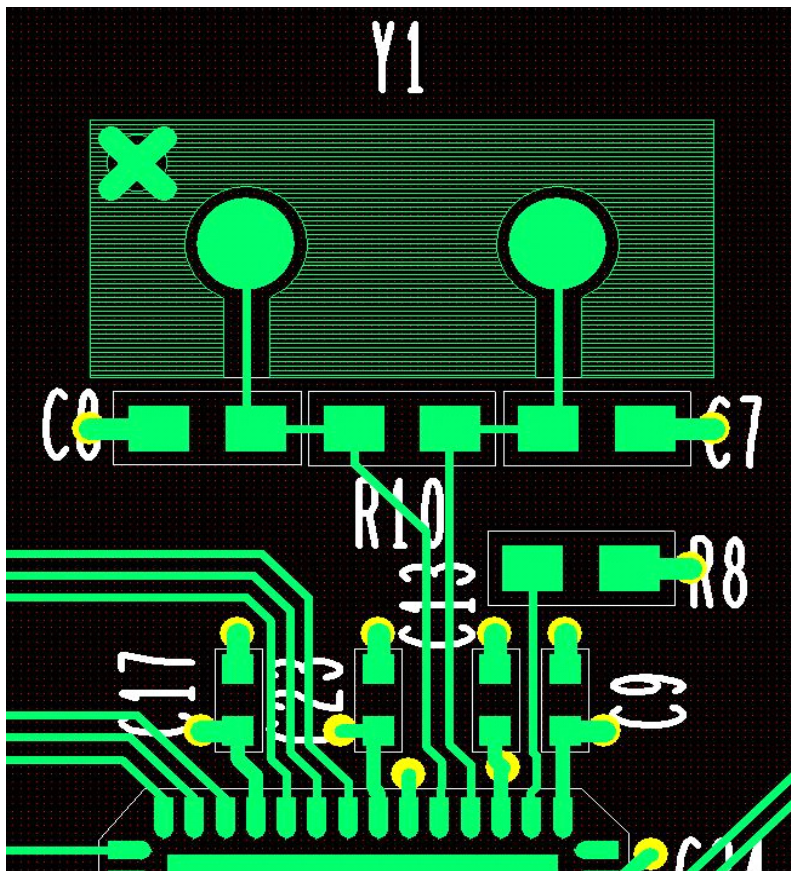

Figure 2.2 Crystal Oscillator Component Layout
Figure 2.2 illustrates a suggested PCB layout of the crystal circuit. All components are far removed from USB lines.
**Note:** The LAN9500A/LAN9500Ai does not require an external resistor across the crystal (R10 in Figure 2.2). The required resistance has been incorporated internally within the device. The LAN9500/LAN9500i does not include this internal resistance and thus requires the external resistor as shown.